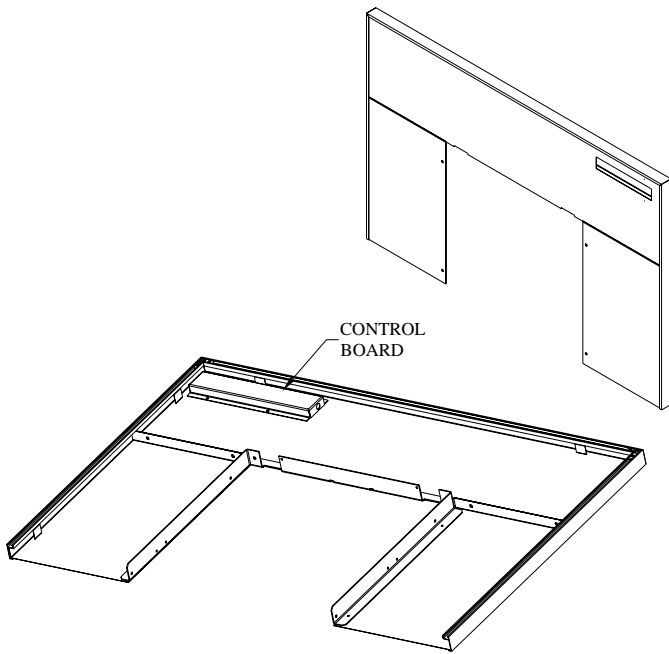
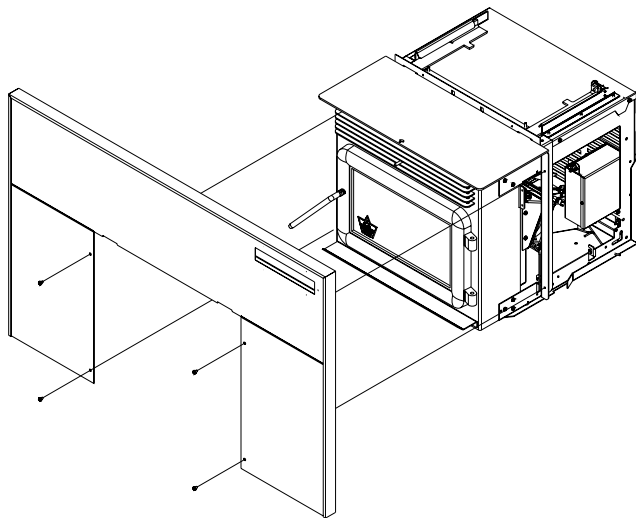

Figure 28
Figure 30
- 4- Assemble the sides to the top of the faceplate.(Figure 28)
- 6- Install the control board on the upper right side of the faceplate(Figure 28). Slide the faceplate on the insert as shown in Figure 30 and secure it to the faceplate extension with 4 screws.